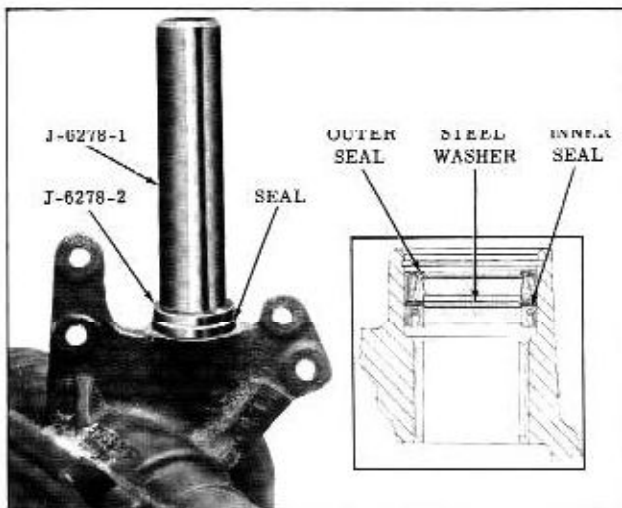

Fig. 4-94 Installing Pitman Shaft Seals
- b. Drive the seals into the housing until the top of Adaptor J-6278-2 is flush with the housing. (Fig. 4-94)
taining ring seats in its groove (Refer to Inset, Fig. 4-94), then remove the tool adaptor.